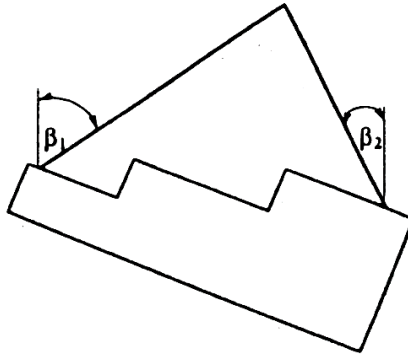

Figure 6: Example for unequal inclination angles  $\beta$
- If different angles of inclination occur with 2-leg suspensions (Figure 6), only the working load limit of a single leg may be taken as a basis.